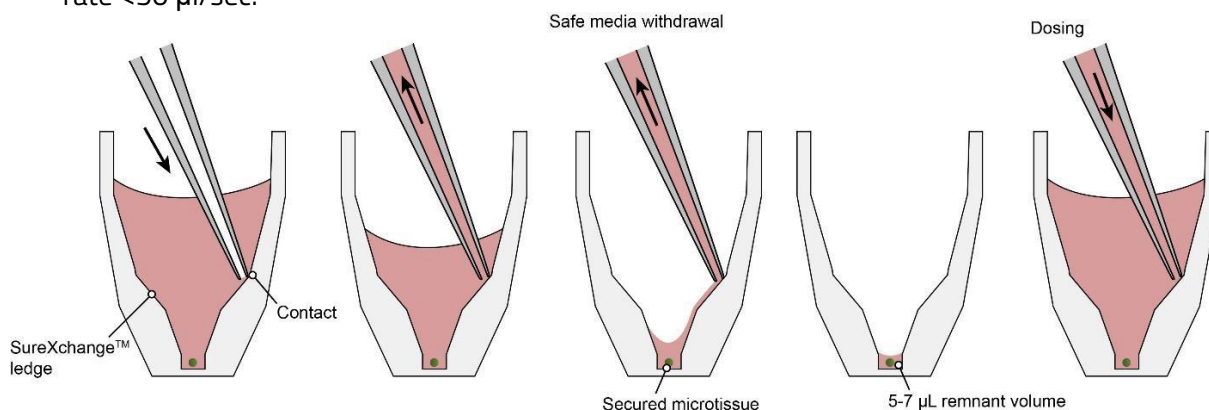

Figure 1: Medium exchange in the Akura™ 96 Plate. Left: Medium removal with the pipette tip placed at the ledge of the well. Right: Medium addition.
Revitalizing the cryopreserved 3D cell models in the ARCTis™ plate is a straightforward process. In general, cryopreservation is stressful for any cell type or tissue. Therefore, the thawing procedure as well as the recovery time directly after it is important. We have optimized this process to ensure high product quality and reliability. The total work effort is roughly 30 min. Preparing multiple plates can be done in parallel depending on available automation infrastructure and sufficient number of Tilting Stands (D). Each plate needs to thaw on its own Tilting Stand. Familiarize yourself with the shape of the wells in our Akura plate™ (Fig 1) and how to add or remove medium.
1. Place the pipette tip at the ledge of the well (Fig. 1, left).
3. Add 70 μ l of fresh medium by placing the pipette tip at the ledge (Fig. 1, right). Use a dispensing rate <50 μ l/sec.
1. Place pipette tip at the ledge by slowly sliding down along the inside wall of the well until a subtle resistance can be felt (Fig. 1, left)
3. Add 70 μ l of pre-warmed medium by placing the pipette tip at the ledge of the plate well (Fig. 1, right) and gently dispense at low pipetting speed (speed dependent on spheroid type, ~10 – 30 μ l/sec if using an automated multi-channel pipette).